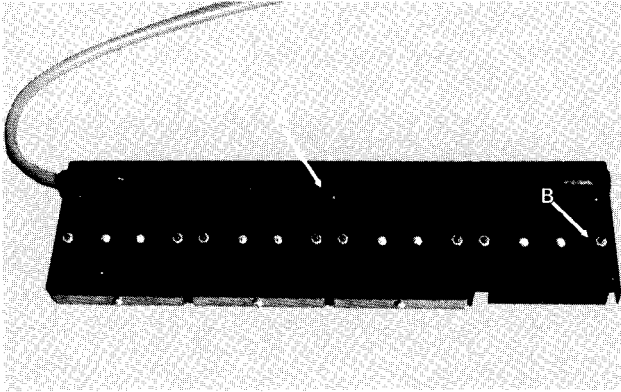

Fig. 32
- 1) Remove wire cover by removing (3) screws, (Item A, Fig. 32).
- 1) Loosen lock nut, (Item B, Fig. 32).